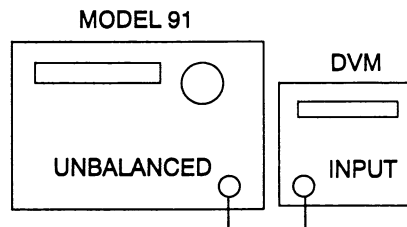

Figure 4-8. Triangle Null Setup
1. The Model 91 display reads **TRI NULL R25 2**. Connect test equipment (DVM set to Vdc) as shown in figure 4-8.
1. The Model 91 display reads **TRI OFFSET R1 46**. Leave the test equipment connected as shown in figure 4-8.
1. The Model 91 display reads **SINE NULL R64**. Leave the test equipment connected as shown in figure 4-8.
1. The Model 91 display reads **SQUARE 0 R158**. Leave the test equipment connected as shown in figure 4-8.